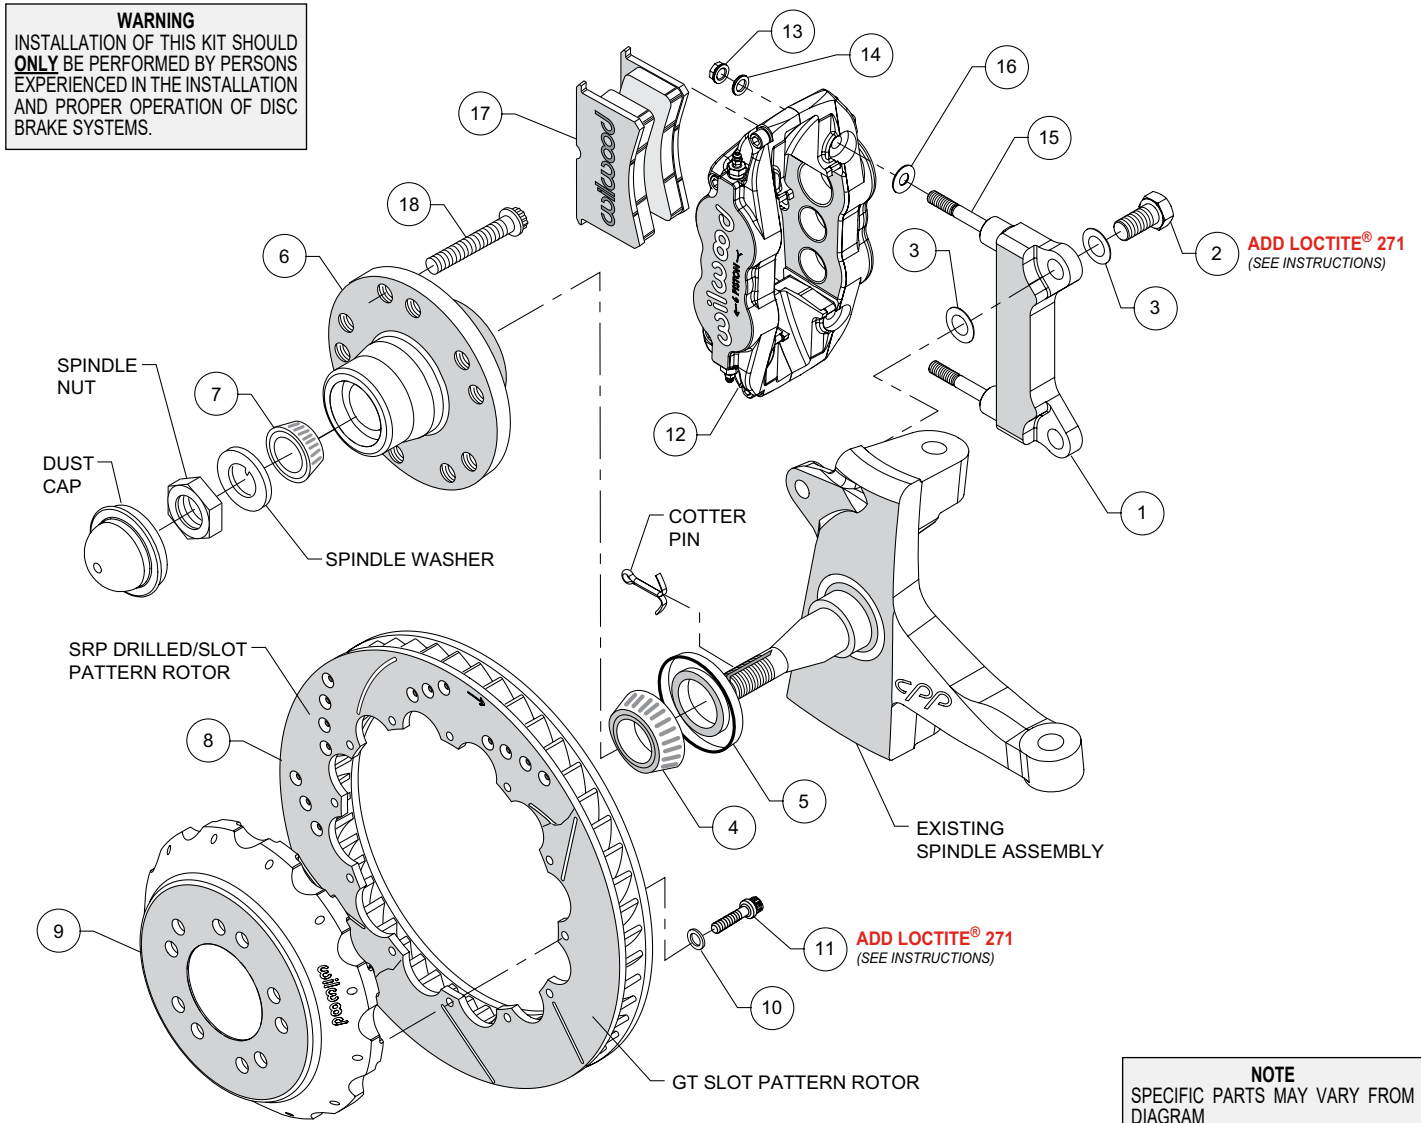
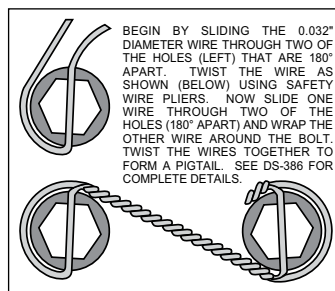

Figure 1. Typical Installation Configuration
Figure 3. Safety Wire Diagram
NOTE: Numbers in parenthesis refer to the parts list and Figure 1 on the preceding pages.
- The caliper mount bracket (1) should initially be installed with clean, dry threads on the mounting bolts. Orient the bracket, as shown in Figure 1, and install using bolt (2) and washer (3). Initially place one .024" thick shim (3) on each bolt between the bracket and upright, Figure 1. Temporarily tighten the mounting bolts. **NOTE:** The bracket must fit squarely against the mount bosses on the upright. Inspect for interference from casting irregularities, machining ridges, burrs, etc. Later, after the caliper alignment has been checked, the mount bolts will be secured using red *Loctite*® 271.
- Orient the rotor (8) and the hat (9) as shown in Figure 1 and Photo 4. Attach rotor to hat using bolts (11) and washers (10). Apply red *Loctite*® 271 to the bolt threads and torque to 155 in-lb using a criss-cross pattern. For an added measure of security, the bolts may be safety wired using standard 0.032 inch diameter stainless steel safety wire as shown in Figure 3. Refer to Wilwood's data sheet DS-386 (available at www.wilwood.com/Pdf/DataSheets/ds386.pdf) for complete safety wire installation instructions.
•**NOTE:** This kit contains distinct right and left hand calipers that must be mounted in a specific direction, as described below. Initially place one .035" thick shim (16) on each stud (15) as shown in Figure 1 and Photo 6. Mount the caliper (12) onto the bracket (1) using lock nuts (13) and washers (14), Figure 1. Ensure that the caliper is mounted so that the largest pistons are at the rotor exit end of the caliper, in relation to the direction of rotor rotation. Temporarily tighten the lock nuts and view the rotor through the top opening of the caliper. The rotor should be centered in the caliper, Photo 7. If not, adjust by adding or subtracting shims (3) between the bracket and the upright. Always use the same amount of shims on each of the two mounting bolts. Once the caliper alignment is correct, remove the bracket mounting bolts one at a time, apply red *Loctite*® 271 to the threads, and torque to 120 ft-lb.